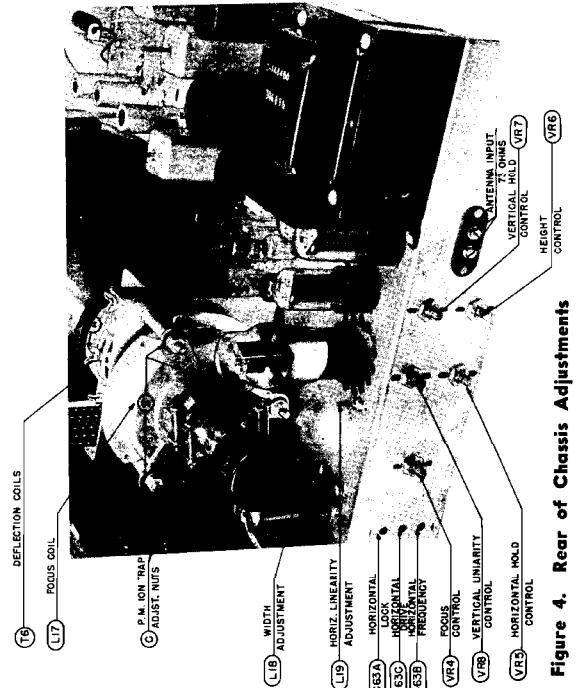

Figure 4. Rear of Chassis Adjustments
7. **Centering Picture:** Center the picture by adjusting the focus coil mounting nuts (B) see fig. 4. Any readjustment of the focus coil for centering may require readjustment of the ion trap to eliminate shadow on the raster.
- Remove 618 section tube (V10). Insert short piece of solid wire in pin No. 6 (counter-clockwise looking at top of socket) and disconnect ground lead (Fig. 4).